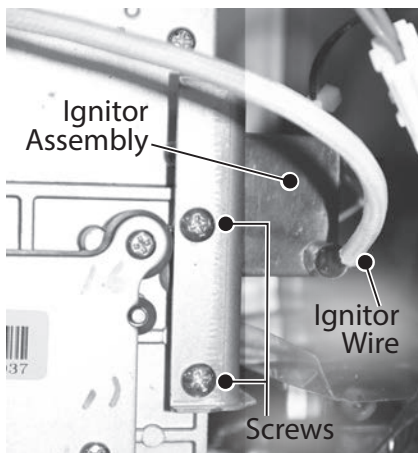

Figure 122 - Ignitor assembly location
- 8 Locate the ignitor assembly on the right side of the water heater. See Figure 122.
- 9 Disconnect the ignitor wire from the ignitor assembly. See Figure 122.
- 10 Remove the two screws securing the ignitor assembly and bracket to the gas manifold. Place screws aside in a safe place for reinstallation. See Figure 122.